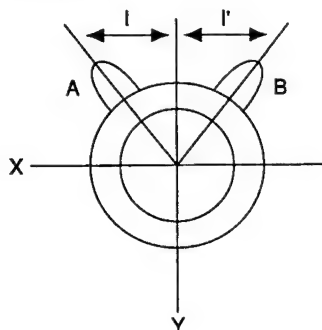

Fig. 3-13 Good example
3. Align the vertical location of R, G, and B in the center of the screen with the V-STAT Mg. (Fig.3-13, 3-14)